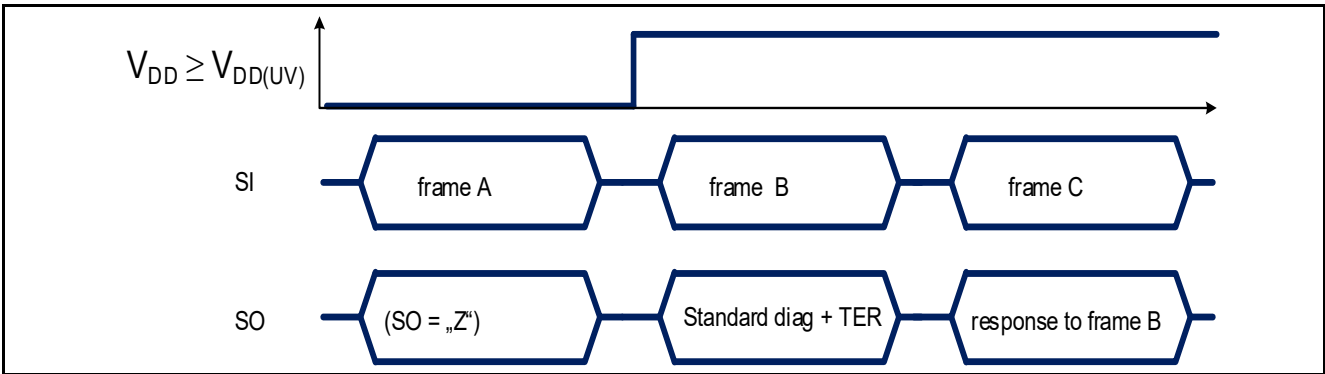

Figure 43 TLD5542-1 response after coming out of Power-On reset at V_{DD}
- when TLD5542-1 logic supply comes out of an Undervoltage reset condition ($V_{DD} < V_{DD(UV)}$) as shown in **Figure 43** or $EN/INUVLO < V_{EN/INUVLOth}$